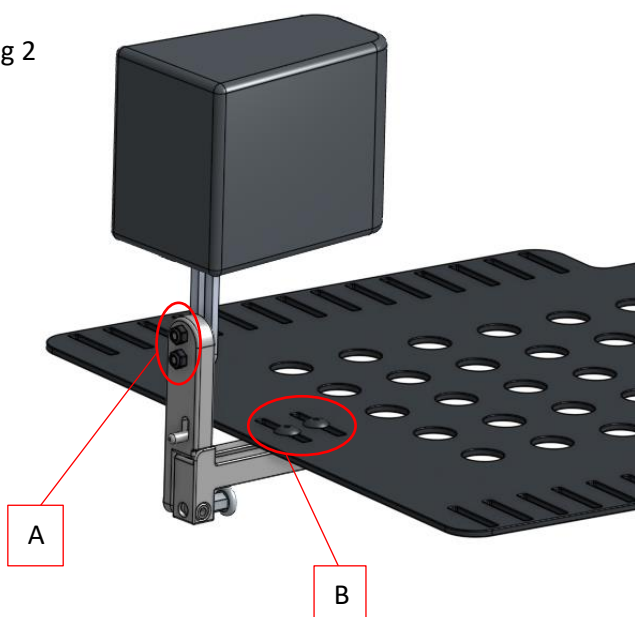

Fig 3
- Lift the release lever (Fig 3 – C) to swing the Medial Thigh Support down for transfers. To lock, simply swing the pad upwards again into position and it will automatically lock in place.
- To remove the pad completely from the wheelchair, swing the Medial Thigh Support down as above then pull the knob at the rear underside of the swing-down Medial Thigh Support bracket (Fig 3 – D) and remove the Medial Thigh Support pad sideways. Installation is simply the opposite of the above.